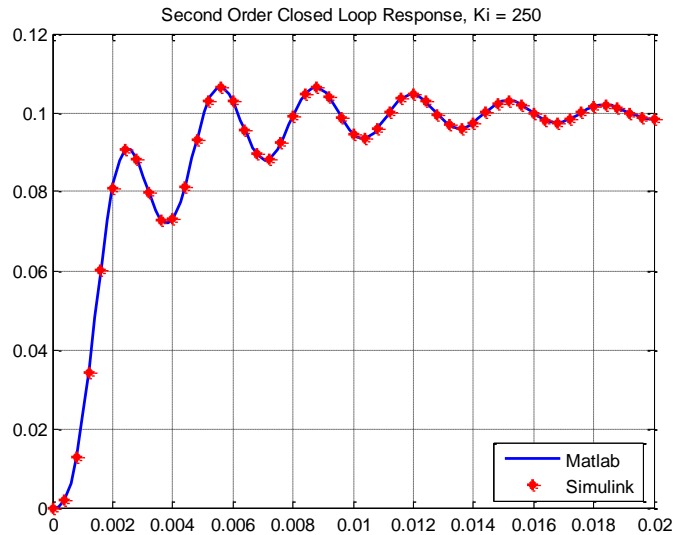

Figure 9: Second order closed loop response
2. Simulate your system in both Matlab and Simulink using the integral controller with a gain of **250**. Your result should look like similar to Figure 9. Note that the steady-state output is the same as the reference input.